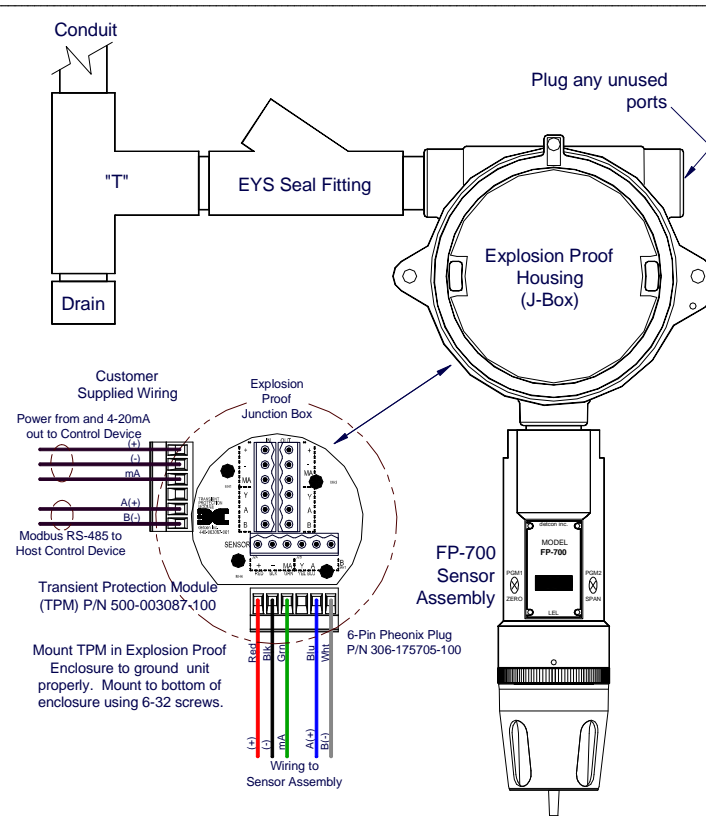
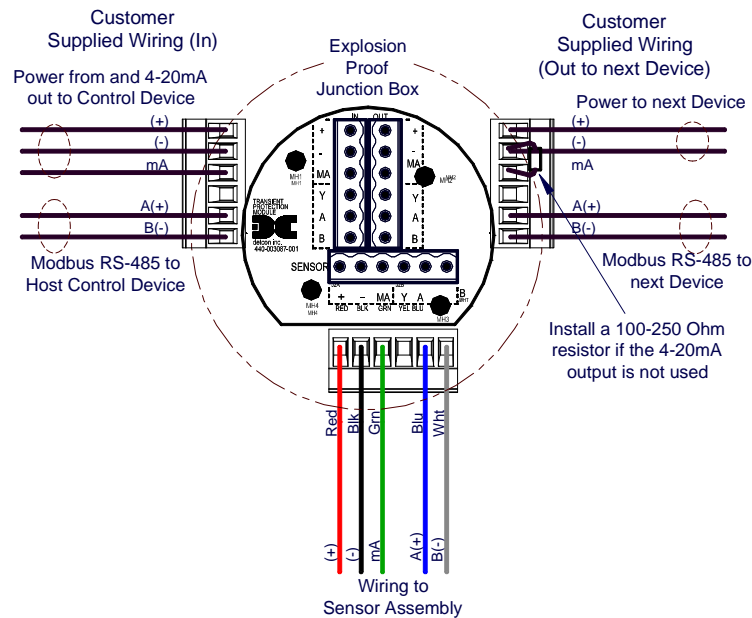

Figure 10 Typical Installation
Figure 11 Sensor Wire Connections
NOTE: In all installations the gas sensor should point straight down, refer to Figure 10. Improper sensor orientation may result in false readings and permanent sensor damage.
Proper electrical installation of the gas sensor is critical for conformance to Electrical Codes and to avoid damage due to water leakage. Refer to Figure 10 and Figure 11 for proper electrical installation.
NOTE: If a conduit run exits the secondary port, repeat the installation technique shown in Figure 10.
In Figure 10, the drain allows H₂O condensation inside the conduit run to safely drain away from the sensor assembly. The electrical seal fitting is required to meet the National Electrical Code per NEC Article 500-3d (or Canadian Electrical Code Handbook Part 1 Section 18-154). Requirements for locations of electrical seals are covered under NEC Article 501-5. Electrical seals also act as a secondary seal to prevent water from entering the wiring terminal enclosure. However, they are not designed to provide an absolute water-tight seal, especially when used in the vertical orientation.
- b) Observing correct polarity, terminate the 3-conductor 4-20mA field wiring (+, -, mA) to the sensor assembly wiring in accordance with the detail shown in Figure 11. If the 4-20mA outputs are not used, install a 100-250Ω resistor between the mA and (-) terminals on the Transient Protection Module.
- a) If applicable, terminate the RS-485 serial wiring as shown in Figure 11. Use the second plug (Out) as termination point on the customer side to facilitate a continuous RS-485 serial loop